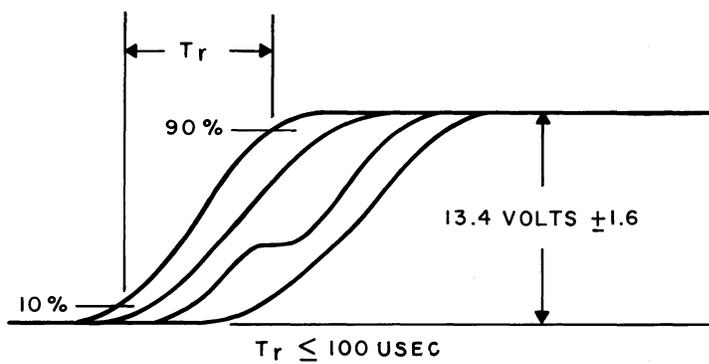

Fig. 54 - (Demodulator Card Test)
- (4) Remove the ground connection from input terminal 19. With the amplitude control of oscillator No. 1 set to 0, temporarily connect ground to terminal 4.
- (5) Set the controls of oscillator No. 2 to produce a 0.5 \pm 0.005 volt rms signal at 1800 cps between input terminal 19 and ground. The wave form between test point 10 and ground shall be a sine wave of 0.68 \pm 0.15 volt peak-to-peak. Remove the ground connection from terminal 4.
- (6) Set the controls of oscillator No. 1 to produce a 0.32 \pm 0.005 volt rms signal at 1800 cps between input terminal 4 and ground.
- (7) Set the controls of oscillator No. 2 to produce a 0.80 \pm 0.005 volt rms signal at 1800 cps between input terminal 19 and ground.
- (8) Connect the scope, using the differential mode of operation, to terminals 16 and 18. Satisfactory synchronization may be obtained by connecting EXT SYNC to VERTICAL SIGNAL OUT on the scope. The output wave form shall be a sine wave. Trace the frequency of oscillator No. 2 in the vicinity of 1800 cps until the frequency of the output sine wave is approximately 2 cps. The output sine wave shall be 13 \pm 2.5 volts peak-to-peak.
- (9) With the controls of the oscillators set as in (8), connect the scope, using the differential mode, to terminals 13 and 14. The output wave form shall be a square wave of approximately 2 cps with amplitude 13.4 \pm 1.6 volts peak-to-peak.
- (10) Increase the frequency of oscillator No. 2 to approximately 2700 cps. With the EXT SYNC TRIGGER SLOPE set to the positive (+) position, expand the TIME/CM selector until an overlay of positive transitions is displayed on the scope as shown in Fig. 54. The rise time of the first transition shall be as specified in Fig. 54.
(11) Momentarily turn off oscillator No. 1. The differential voltage between terminals 13 and 14 shall be less than 150 mv peak-to-peak. Turn on oscil-